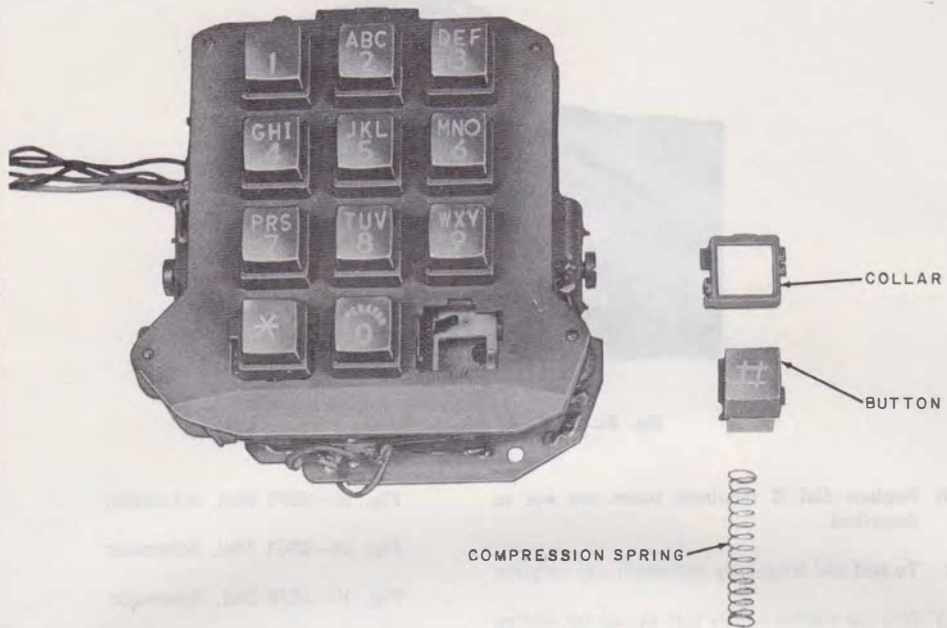

Fig. 7—25W3 Dial with Special Service Button Disassembled
(2) Assemble a button and collar by slipping the collar over the gray end of the button so that the tangs of the collar point toward the white end of the button. The collar and button must be assembled in the relative positions shown in Fig. 7. The tab on the button should be on the right side when looking at the face of the button.
(3) Insert spring into hole in back of button.
(4) Hold the button, collar, and spring assembly between the thumb and forefinger and insert the assembly, spring first, straight into the dial cover plate cavity making sure the two tabs extending from the collar fit into the two recesses at the top and left sides of the cavity. The assembly must be inserted far enough so that the tangs on the collar snap and lock around the projections in the sides of the dial cover plate cavities to hold the button assembly firmly.
(5) The * button should be installed on the left side of the dial and the # button on the right side of the dial (Fig. 7).